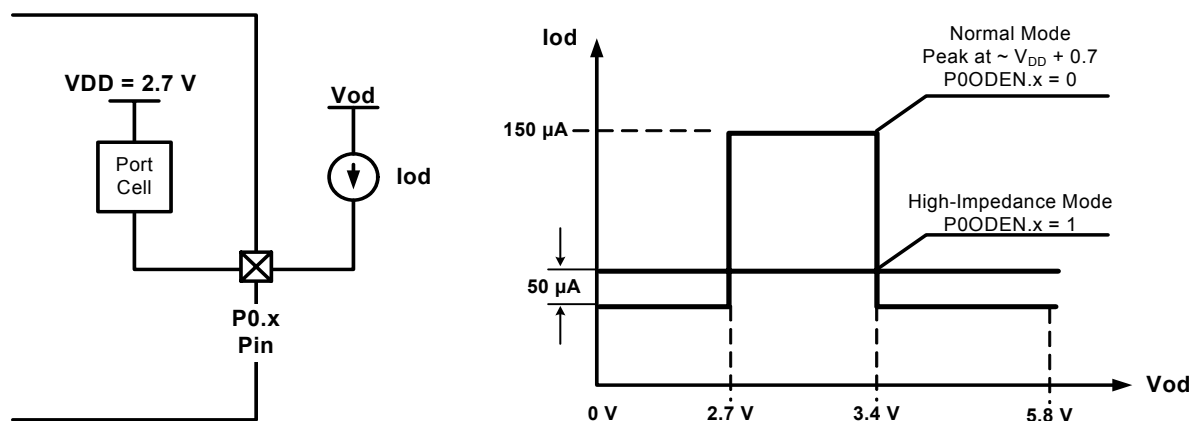

Figure 21.5. Port 0 Input Overdrive Current Range
**Important Note:** Port 0 pins are 5 V tolerant across the operating range of  $V_{DD}$ . Figure 21.5 shows the input current range of P0 pins when overdriven above  $V_{DD}$  (when  $V_{DD}$  is 2.7 V nominal). There are two overdrive modes for Port 0: Normal and High-Impedance. When the corresponding bit in P0ODEN is logic 0, Normal Overdrive Mode is selected and the port pin requires 150  $\mu\text{A}$  peak overdrive current when its voltage reaches approximately  $V_{DD} + 0.7$  V. When the corresponding bit in P0ODEN is logic 1, High-Impedance Overdrive Mode is selected and the port pin does not require any additional overdrive current. Pins configured to High-Impedance Overdrive Mode consume slightly more power from  $V_{DD}$  than pins configured to Normal Overdrive Mode. Port 1 pins cannot be overdriven above  $V_{DD}$ .